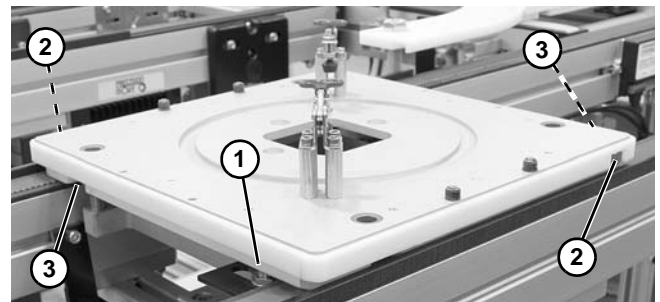

Figure 32
- One bottom (Figure 32, item 1) and two side flags (Figure 32, item 2) can be used for sensing.
- Stop only has to be released long enough to clear pallet skirt that was stopped. Notches (Figure 32, item 3) in skirt allow stop to be reset before pallet clears stop area.